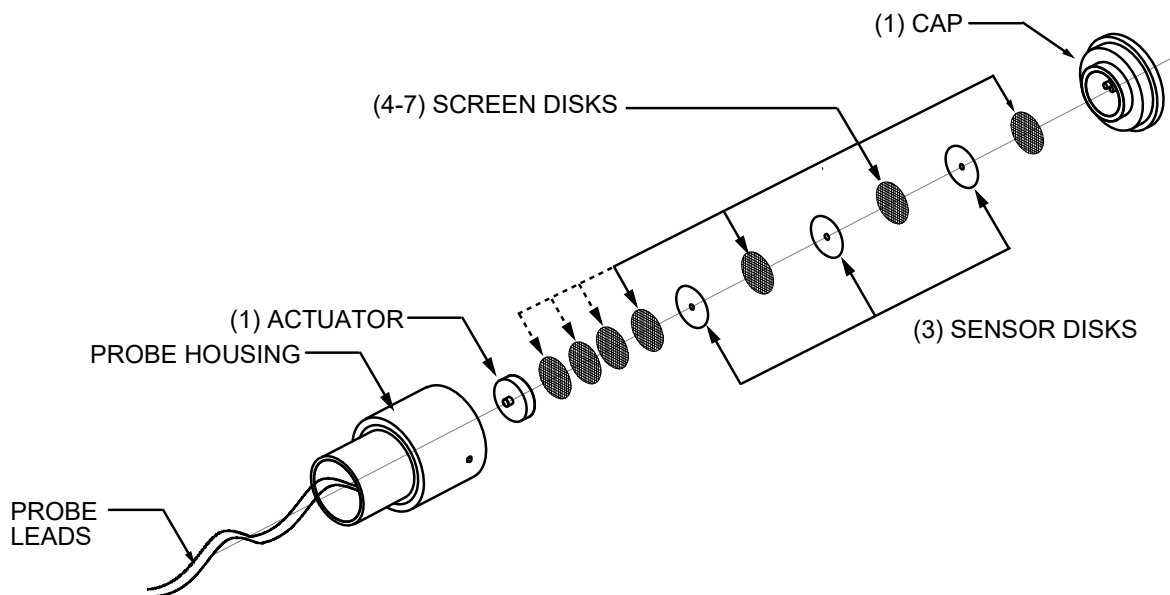

Figure 9-3
6. Figures 9-1 and 9-2 show the recommended installation procedures. Figures 9-3 thru 9-7 show typical probe installations. Install the probe and use electrical conduit and/or watertight cord grips, as necessary, to prevent water entry where the probe twin lead penetrates the monitored area. If the probe lead length is longer than 5' [1.5 m] and the probe is installed in the first 800' [245 m] of a system, plastic conduit should be used instead of metal conduit. The cord grip (part # 8057950) with the oval opening in the bushing is used with the twin lead cable. The cord grip (part # 8057954) with the round hole is for the jumper cable.
The replacement sensor package consists of 10 disks: seven screen disks and three sensor disks as shown in figure 9-3. The replacement package includes all removable parts: probe cap, sensor elements, and actuator. Replacement sensor elements can also be purchased separately.
6. Reassemble the switch. Carefully alternate the screens and three sensor disks in the cap as shown in figure 9-3. If there are more than 4 screens, place the extra screens on top. Place the actuator on top of the top screen. The actuator has a small point in the center of one side that must face the probe
If the sensor elements are replaced, it is necessary to use the correct number of screen elements for optimum sensitivity (see figure 9-3). The number of screens required varies due to manufacturing tolerances of the probe. A multimeter is required.
4. If the reading is 0.L, remove a screen (shown by the dashed arrows in figure 9-3). If the reading is less than 2 ohms, the calibration is complete.